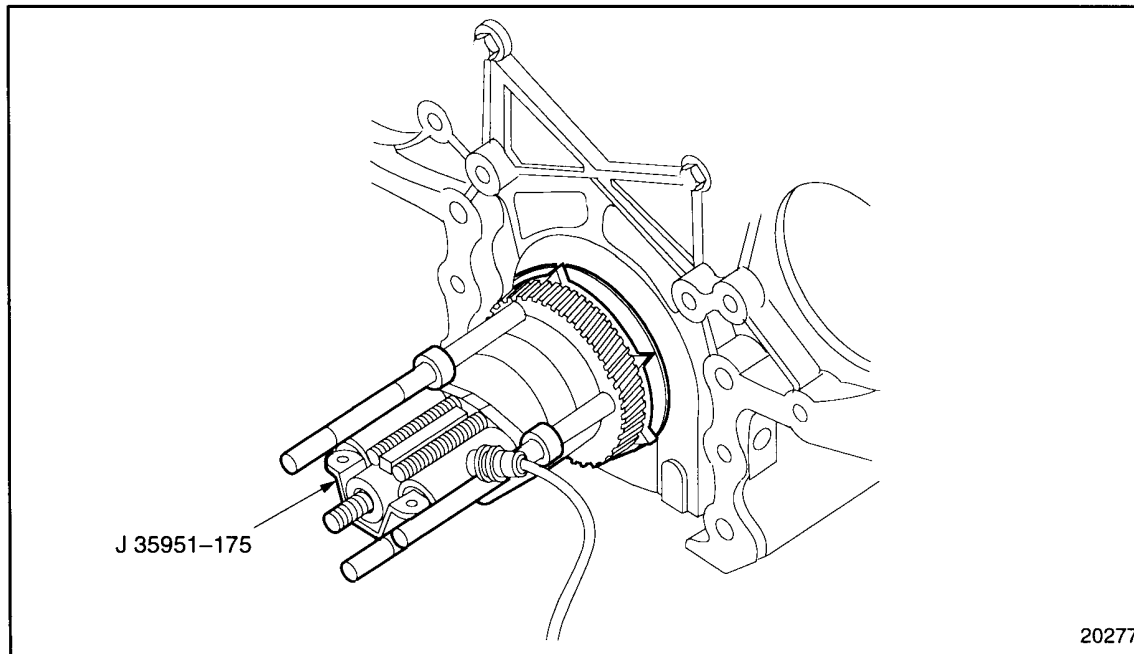

Figure 1-357 Hydraulic Ram Installation
11. Slide the hydraulic ram of portable press, J 35951-175, over the center rod of base post, J 35642-1 part of J 35642 part of tool kit J 35642, and all the way to the base. See Figure 1-357.